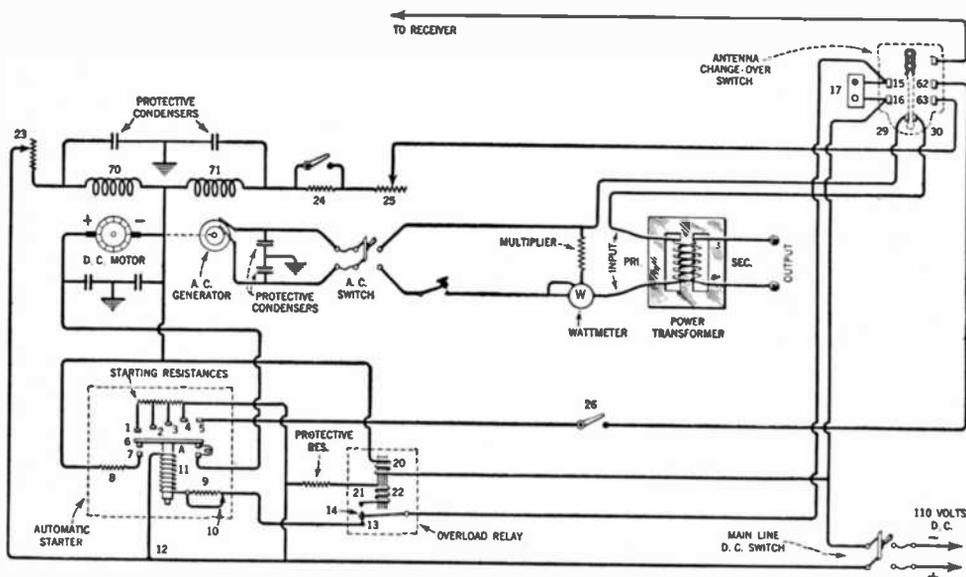

FIG. 80.—Diagram of a complete motor-generator installation and "finger" type automatic starter connected in the power circuit of a spark transmitter.
*Answer.* The diagram of an automatic starter supplied with 2-kw. 500-cycle transmitting sets is shown in Figure 80.